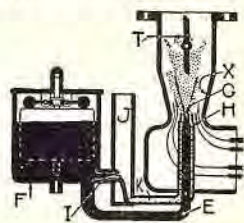

Fig. 19 A
We will now apply both principles, the "single jet (G)" with its "variable flow," and the "compensating jet (I)," with its "constant flow" to a carburetor (Figs. 19 and 19A), and we have the Zenith "compound nozzle."